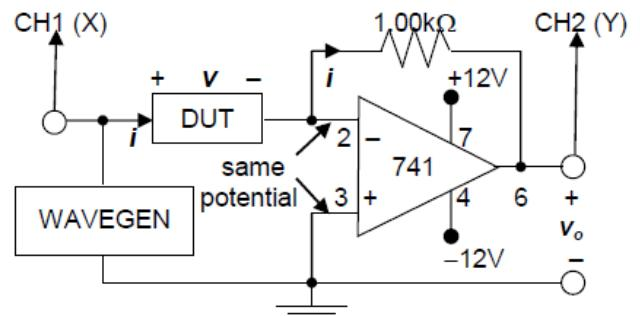

Fig.2.2 Circuit for displaying $i-v$ characteristic
The circuit shown in Fig. 2.2 will be used to display the $i-v$ characteristic curve of the Device Under Test (DUT) on a DSO used in the **x-y mode**. This circuit generates a voltage $v_o = -iR$, where $R = 1.00\text{k-Ohm}$ and i is the current flowing through the DUT in response to the voltage v applied across **DUT from the WAVEGEN**.
- Set the **WAVEGEN** to generate 1-kHz sine wave having Peak-to-Peak value = **1V** and Offset = **0V**. With a 1.00k-Ohm resistor as the **DUT**, make the connections to the **DSO** as shown in **Fig. 2.2**.